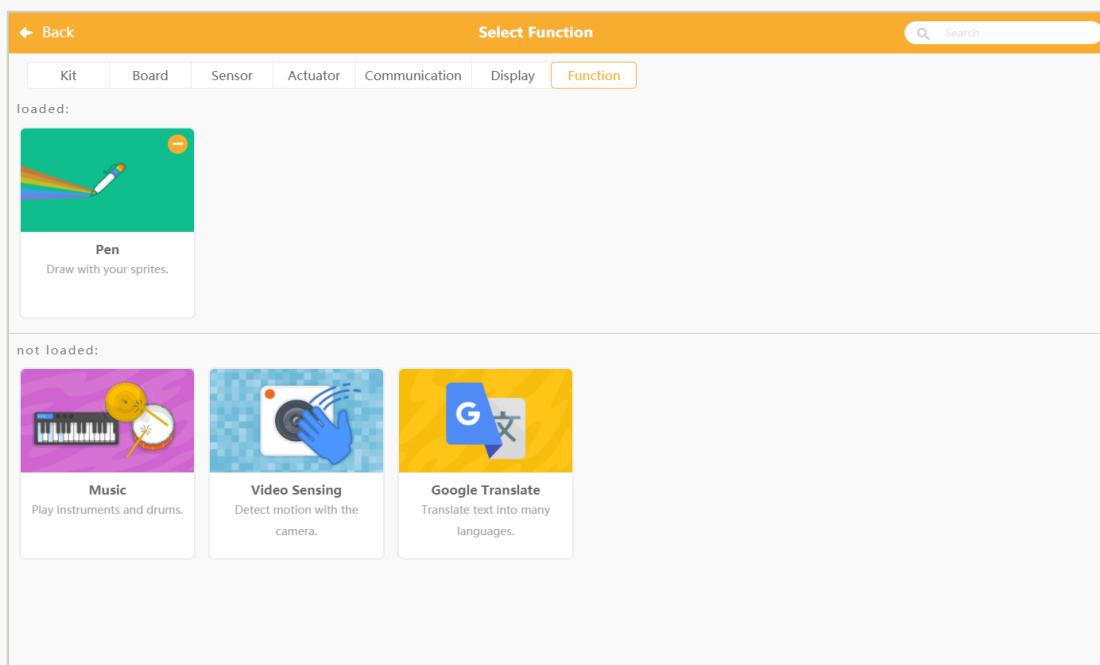

Figure 8-1
**1. Click “Expansions”->“Functions”->“Pen” to load the pen module. As figure 8-1 shows.**